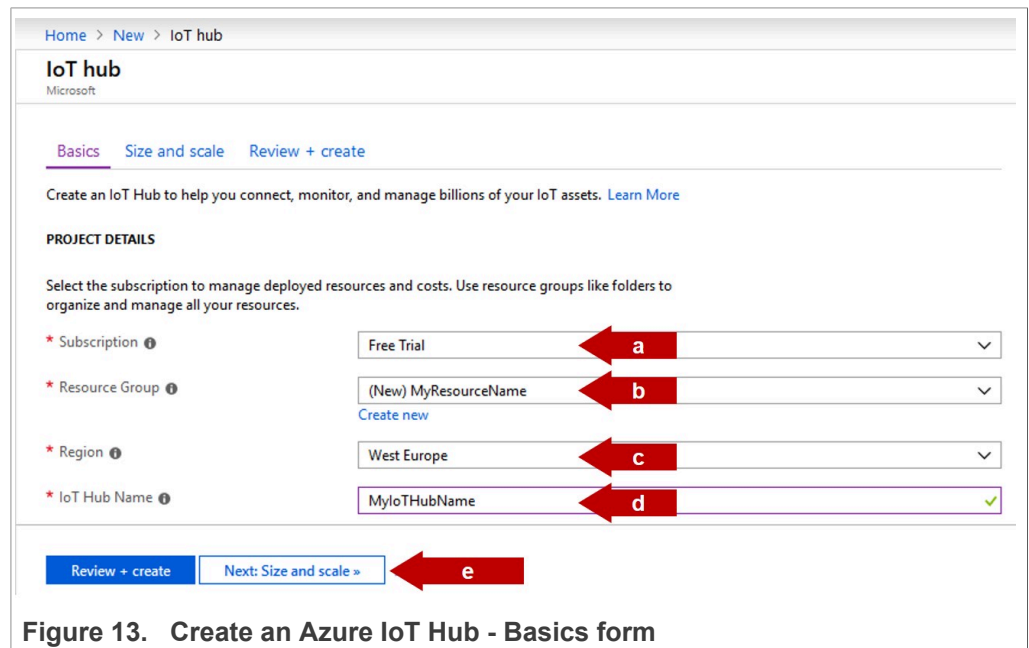

Figure 13. Create an Azure IoT Hub - Basics form
- 2. In the **Basics** tab, fill in the fields as shown in Figure 13: